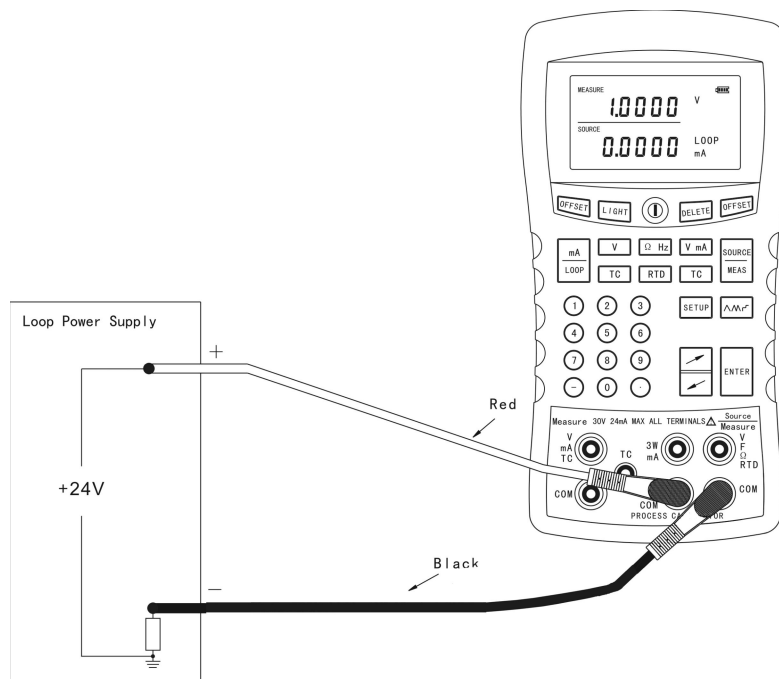

Figure6-7 Connections for Simulating a Transmitter
- (1) Press  until the display shows "SOURCE".
- (2) Press  to select simulating transmitter until the display shows "LOOP mA". The EDEKA TC-200 Multi-function process calibrator produces a variable resistance to regulate current to the specified value.
- (3) Connect an external loop power supply as shown in Figure6-7.
- (4) Enter the desired output value by pressing numeric keypads and press .